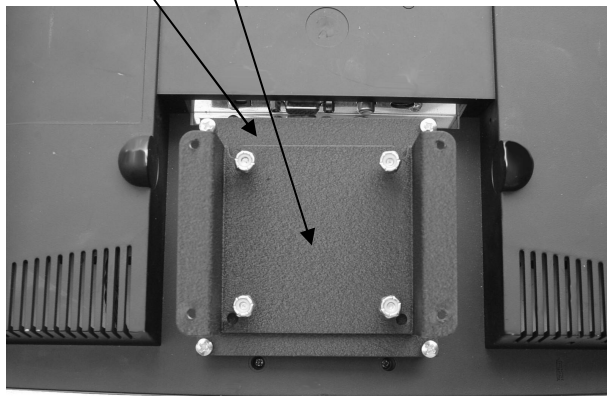

Figure 4. 100mm to 75mm Installation
3. Secure the 100mm adapter bracket to the 75mm adapter bracket (see Figure 4).